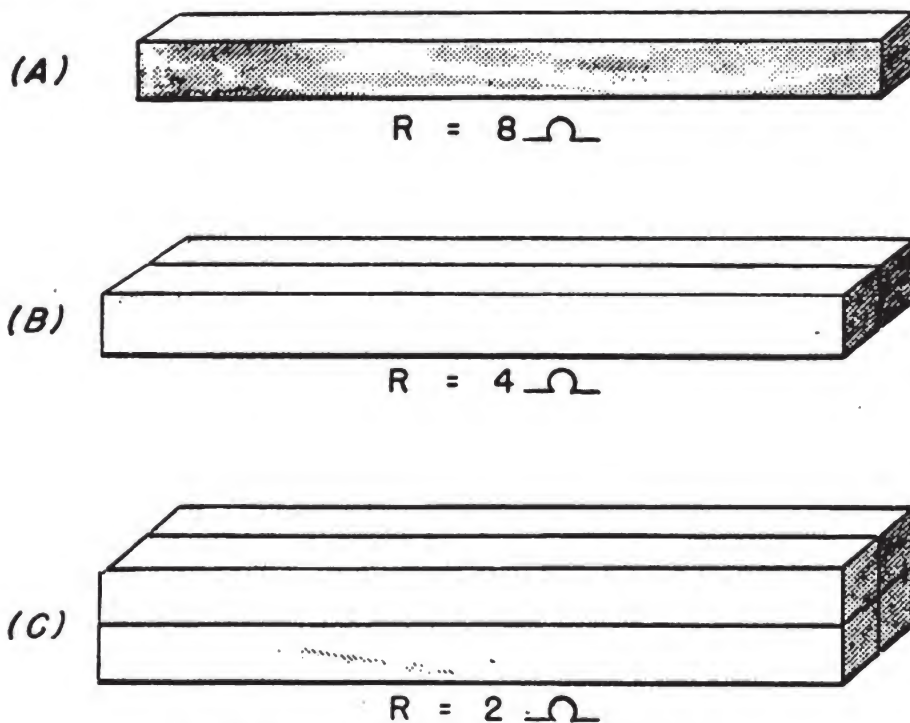

Figure 51.—Resistance and cross-sectional area.
Suppose the copper bar in (A) of figure 51 has a resistance of 8 ohms, and the copper bar in (B) has the same length but double the C. S. A. Then the bar in (B) will have one-half the resistance of the bar in (A), or 4 ohms. The bar in (C)